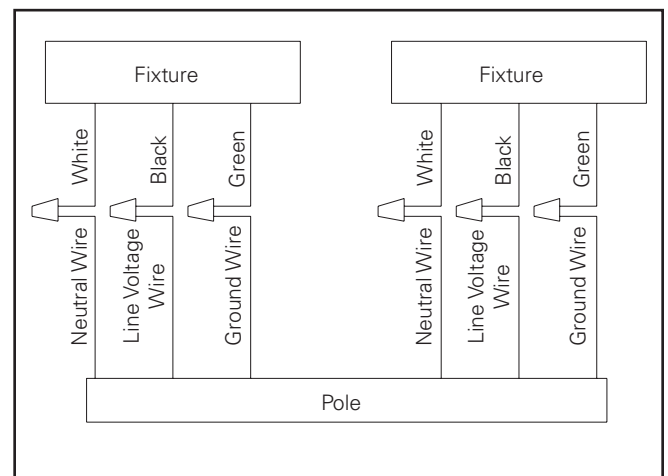

Figure 14.
9. Connect supply wires to appropriate luminaire leads. (Figure 14.)